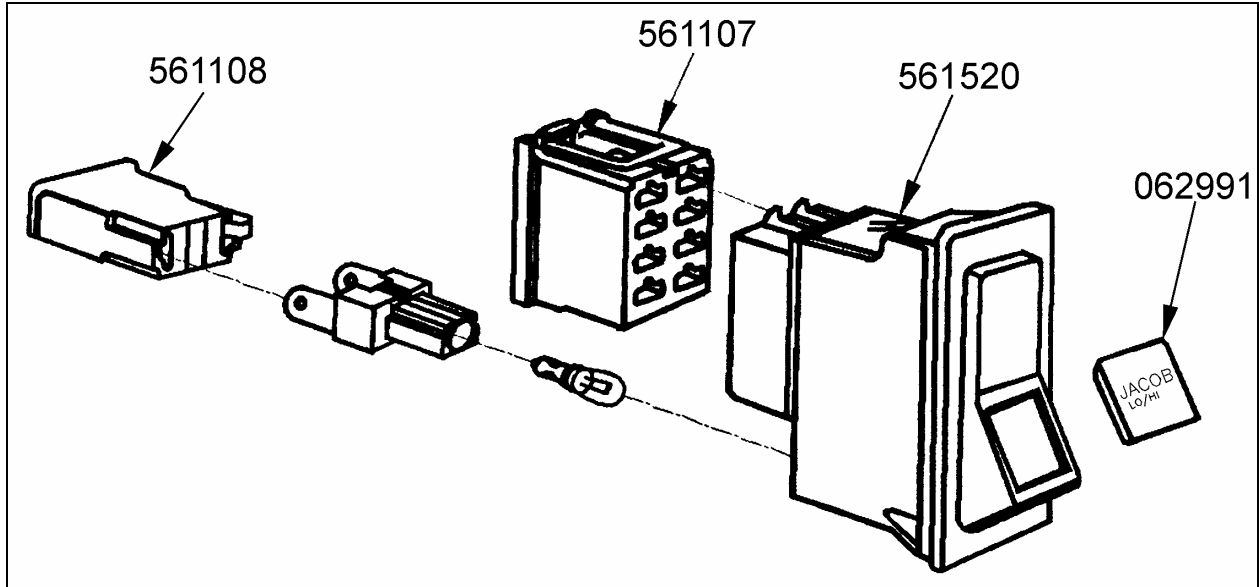

FIGURE 2: JACOBS SWITCH
4. Install the Jacobs switch (561520) in a suitable location like an unused switch position (Refer to figure 2).